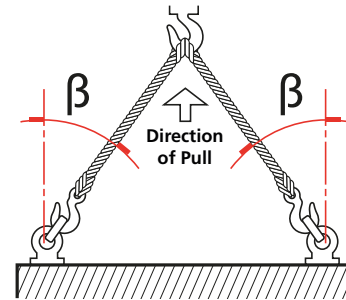

Fig 7.1 Vertical lifting
- Hook a double chain sling on the lifting lugs as shown in Fig 7.1.